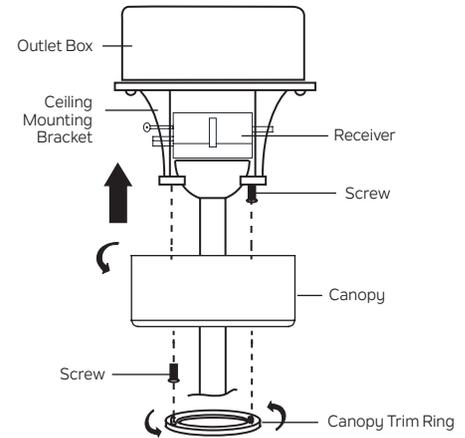

Fig. 14
Step 2. Carefully raise the canopy up to the ceiling mounting bracket and place one of the key hole slots in the canopy over the screw on the ceiling mounting bracket. Rotate the canopy until the screw head locks in place at the narrow section of the key hole. **(Fig. 14)**
NOTE: Adjust the screws as necessary until the canopy and canopy trim ring are snug. **(Fig. 14)**